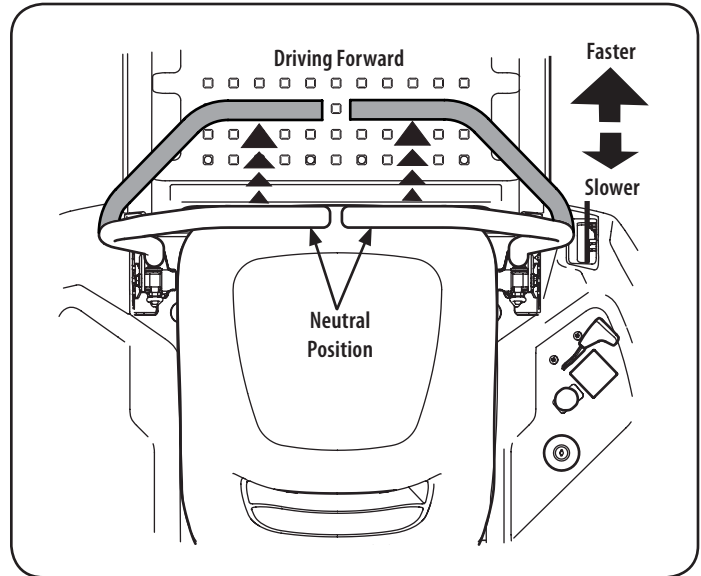

Figure 10
1. Slowly and evenly move both drive control levers forward. The riding mower will start to move forward. See "Figure 10".